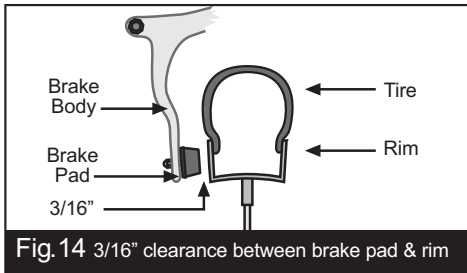
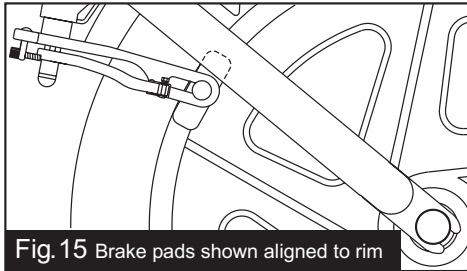

Fig. 14 3/16" clearance between brake pad & rim
Fig. 15 Brake pads shown aligned to rim
1) that the pads contact the rim correctly, 2) that the brake is centered on the frame, and 3) that the distance from the pads to the rim is about 3/16 of an inch as shown in Fig. 14. Squeeze the brake lever and verify that the brake pads contact the rim as shown in Fig. 15. If they are misaligned, use a 10mm wrench to loosen brake nuts, slide pads into correct position and tighten securely. The cable tension is pre-adjusted at the factory yet the brake cable will need periodic adjustment (as the cable stretches slightly and the black cable housing compresses over time).
To adjust cable tension, there are two barrel adjusters in the brake assembly, shown in Fig. 12 and Fig. 8. To tighten the cable, loosen the lock ring and turn the barrel adjuster in the counter clockwise direction. Secure the barrel adjuster in the new position by tightening the lock ring against the caliper or brake lever body. There should be a 3/16" clearance between the rim and brake pads as shown in Fig. 14. If gap is not equal on each brake pad, you can reposition the brake on the frame by loosening the nut shown in Fig. 8 with a 10mm wrench, adjust to the gap shown in Fig. 14 and re-tighten the 10mm nut. If you do not understand these instructions, or feel the brake is adjusted incorrectly, take the stroller to your dealer for proper adjustment. If your brake pads (Fig. 8) are worn, see your dealer for replacements.